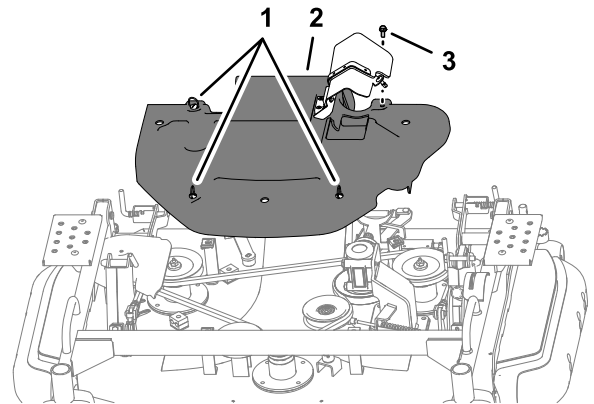

Figure 116
1. Rotate the 3 quarter-turn fasteners counterclockwise (Figure 116).
2. Loosen the bolt (Figure 116).
1. Align the quarter-turn fasteners of the belt cover with the clip nuts of the mower deck; refer to Figure 116 in Removing the Belt Cover (page 76).
3. Install the bolt in the belt cover to the nut clip of the mower deck; refer to Figure 116 in Removing the Belt Cover (page 76).